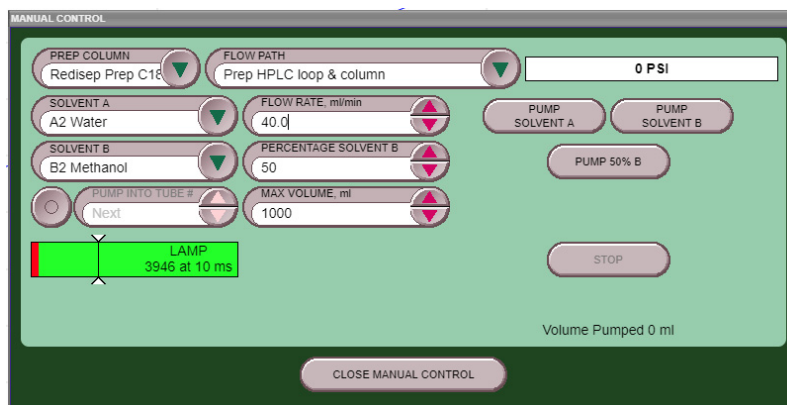

Figure 6-4 Manual Control Settings - Quick Cleaning
4. Set the Flow Rate to 40 mL/min (Figure 6-4).